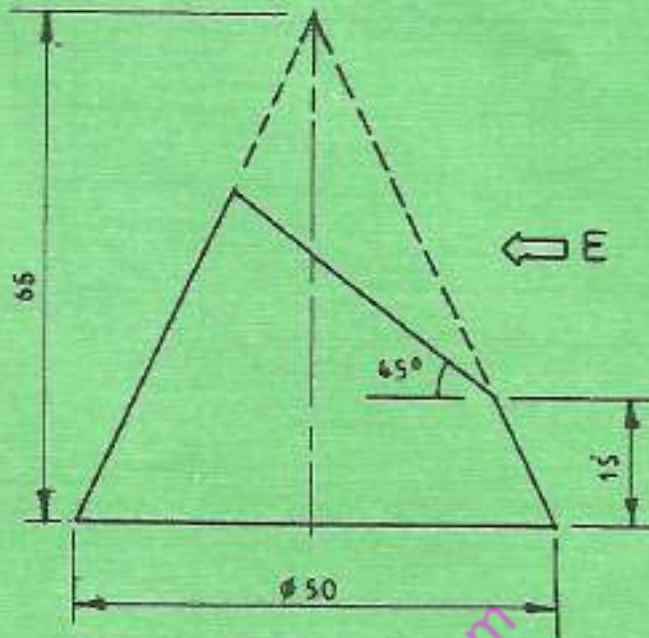

Fig. 2
6. **Figure 2** shows the elevation of a truncated cone. Redraw the given elevation and complete the following: